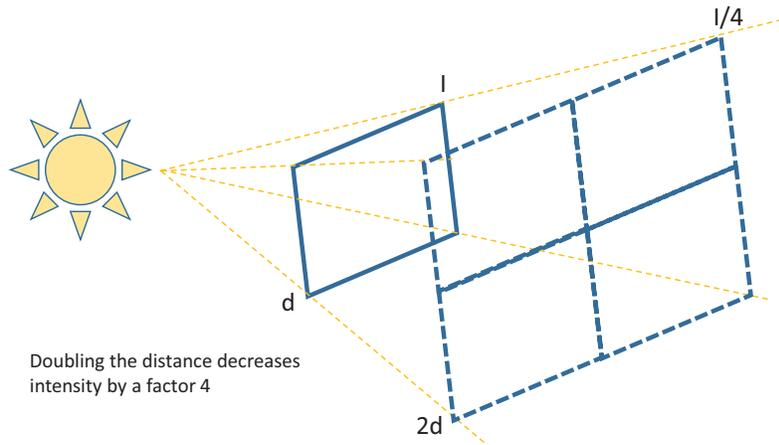

Figure 6. Inverse square law of power.
According to the inverse square law of power shown in Figure 6, as light travels away from the source it spreads out; the greater the range or the divergence, the more quickly the irradiance (energy per unit area) decreases. Doubling the distance means that the same energy is spread over four times the area, hence the intensity will drop to one fourth. According to expression (6), the SNR is proportional to the square root of the sensor energy, so a doubling of the distance will lead to a ~6 dB decrease in SNR; an increase of the distance by a factor 1.5 would lead to a decrease of SNR by ~3.5 dB. To compensate for the doubling of the distance, the output flux needs to be increased four times in order to keep the same SNR (see section 3.2 for a more detailed overview of how changes in distance and output flux impact SNR).